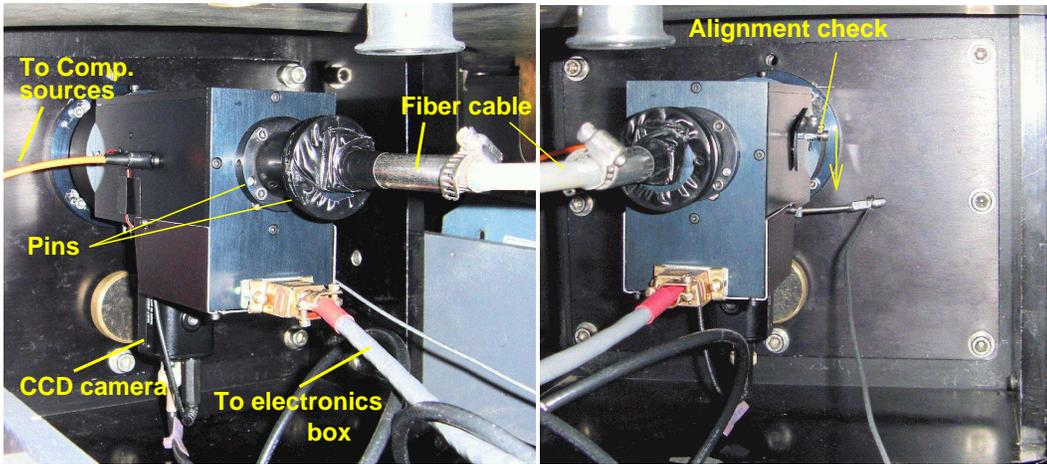

Figure 2: FEM attached to the GAM door (views from two sides).
Figure 2 shows the FEM attached to the GAM. The space is restricted from all sides. To remove the FEM, loosen the 4 M4 screws, turn the FEM anti-clockwise and pull it away, leaving the screws in place. Be careful not to damage the cables and the optical fiber! Installation – in the reverse order. The FEM is permanently installed on the telescope, but any repair or trouble-shooting require its removal because accessing it is difficult.
The co-alignment between the hole and the fiber is very important. To check it easily, an auxiliary optics (a small mirror and a strong eyepiece) can be lowered in front of M2 (“Alignment check” in Fig. 2). The back-end of the fiber is illuminated (put paper on the slit, turn on the light in the coude room), and the image of its front end can be seen through the hole and centered (by tiny motions in the fiber holder). Do not forget to retract the auxiliary optics after the alignment check!
- Fiber-hole co-alignment. Back-illuminate the fiber by placing a piece of white paper on the lower BEM lens and switching on the light in the coude room. Detach FEM from the telescope without disconnecting. On the FEM, release the fixing screw on the alignment-check optics (Fig. 2, right), move the lever down to un-cover the hole, and see the round image of the fiber end through the hole. In the case the image is not round (obstructed by the hole on one side), make a *very slight* correction with the set-screws in the fiber holder. Be careful not to turn these screws by more than 1/4 of the revolution and always leave them tightened.